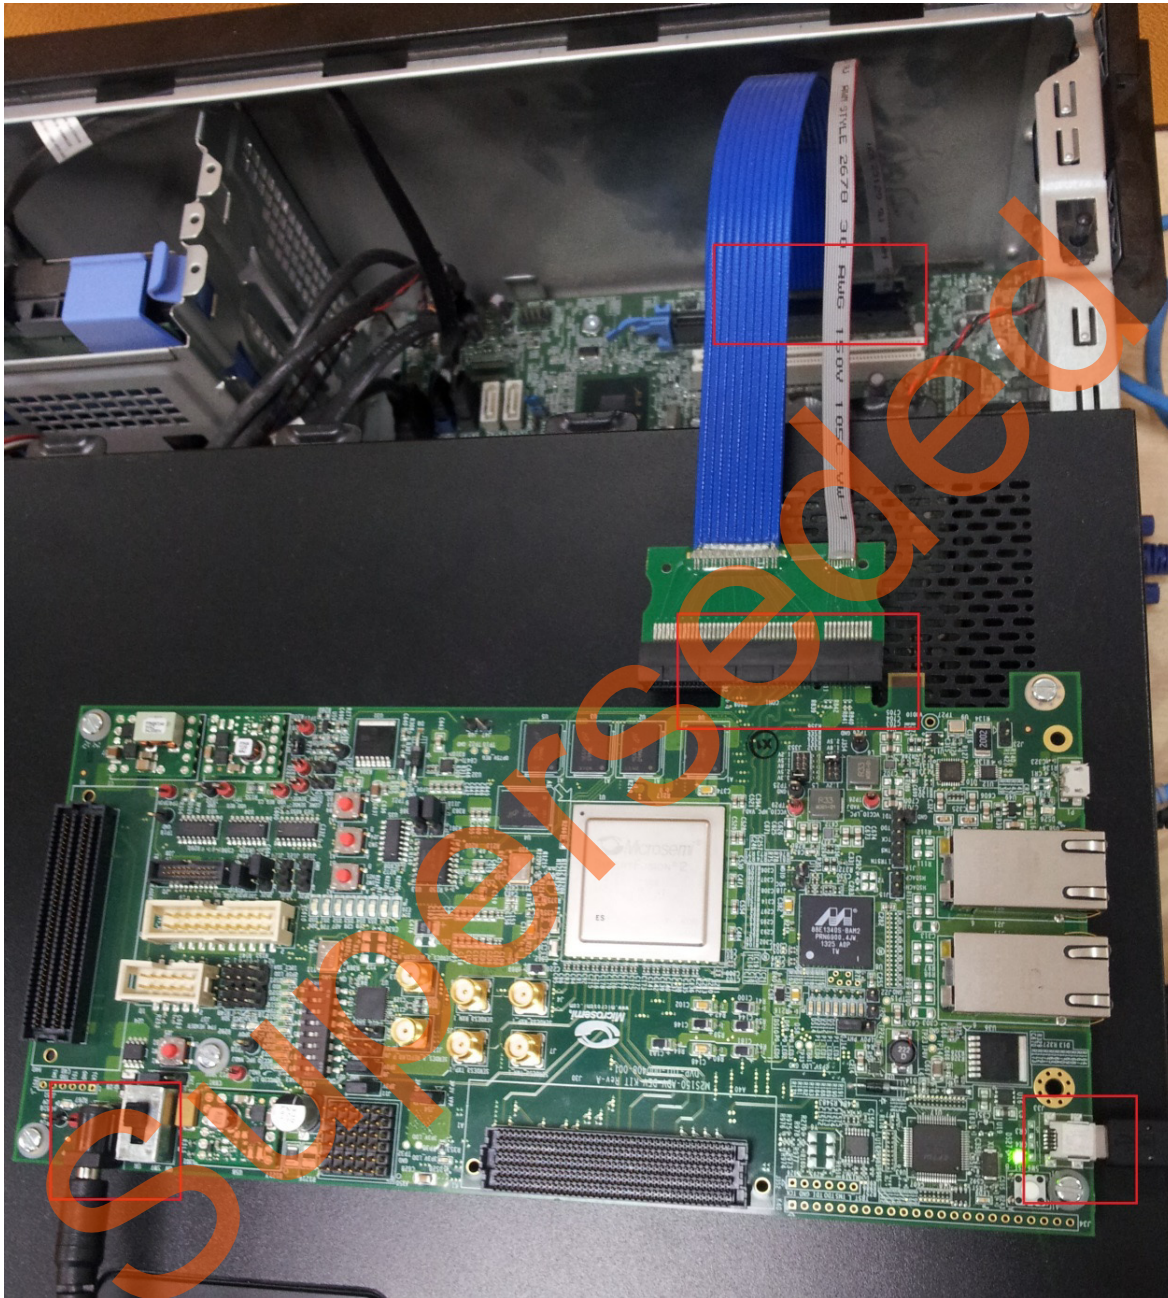

Figure 13 • SmartFusion2 Advanced Development Kit Setup for Host PC
3. Figure 13 shows the board setup for the Host PC in which SmartFusion2 Advanced Kit Board is connected to the Host PC PCIe slot.